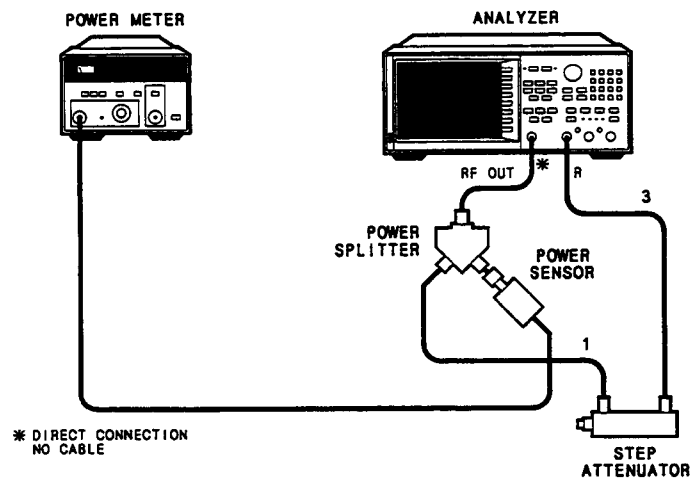

Figure 24. Low Level Magnitude Dynamic Accuracy; Input R
**NOTE:** The cables in Figure 24 are numbered 1 through 3 in **INITIAL SETUP**. Cable number 2 is not used in the **MEASUREMENT SETUP**. These cable numbers are intended to clarify which specific cable is to be removed.